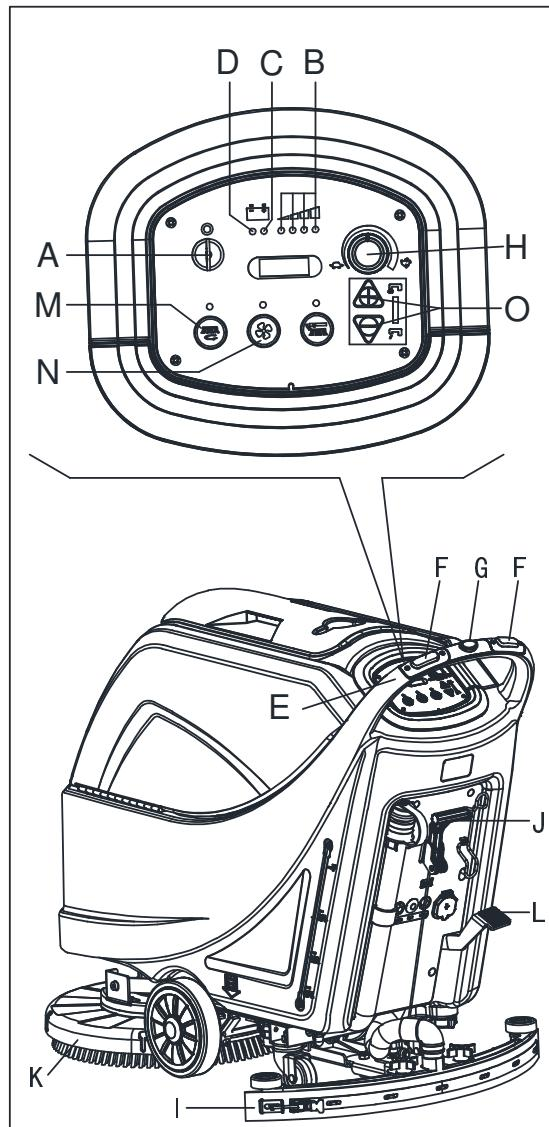

Figure 8
2. Insert the ignition key (A, Figure 8) and turn it to "I". Check that the green warning light (B) turns on (charged battery). If the yellow (C) or red warning light (D) turns on, turn the ignition key back to "0" and charge the batteries (see the procedure in Maintenance chapter).
- By pushing it with the hands on the handlebar (E) (only for machine without traction).
- By pushing it with the hands on the handlebar (E) and pressing the switch (F) to move forward, or pressing the switch (F) together with the switch (G) to move backward (only for machine with traction). The forward speed can be adjusted with the adjuster (H).
4. Lower the squeegee (I) with the lever (J).
5. Lower the brush/pad-holder deck (K) by lifting the pedal (L).
6. Press the brush/pad-holder switch (M) and the vacuum system switch (N).
7. Press the washing water flow control switches (O) as necessary, depending on the type of cleaning to be performed.
- (only for machine without traction) by pushing the machine with the hands on the handlebar (E) and pressing the switch (F).
- (only for machine with traction) by pushing the machine with the hands on the handlebar (E) and by pressing the switch (F). If necessary, the forward speed can be adjusted with the adjuster (H).
2. While keeping both hands on the handlebar press the safety switch (F, Figure8), then manoeuvre the machine and start scrubbing/drying the floor.